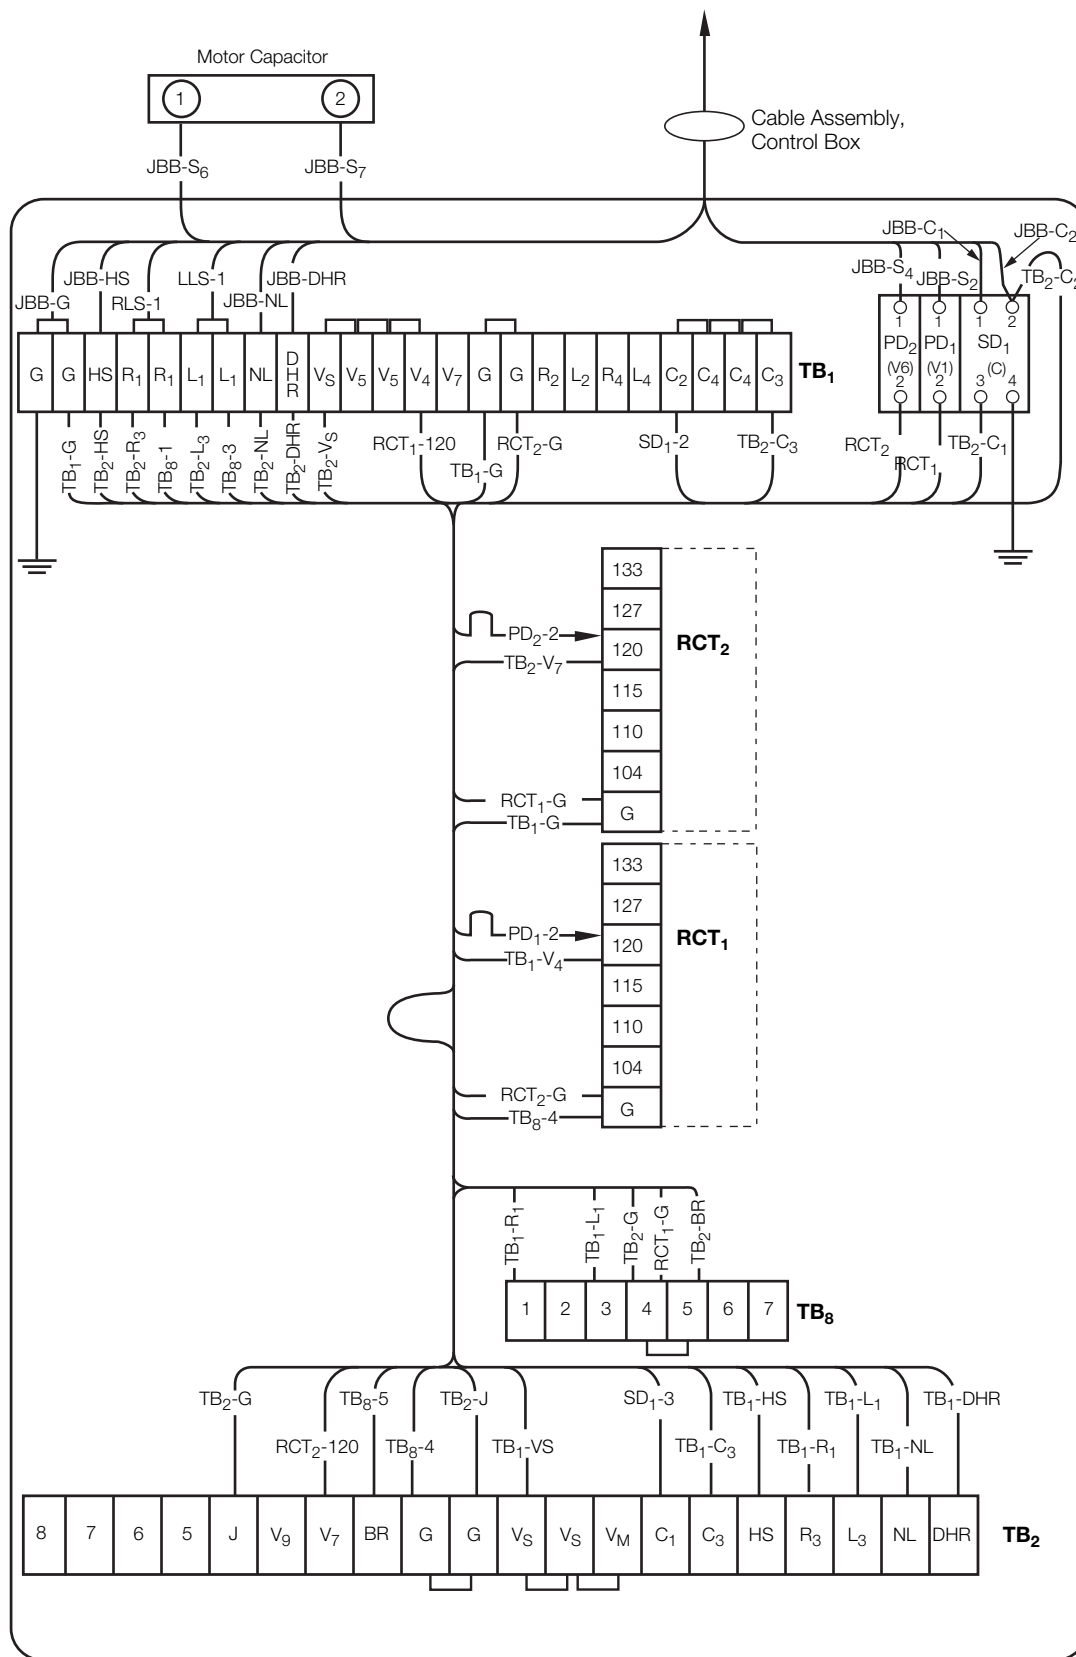

Figure 10.
6. Insert the control box cable in to the control cable and tighten the cable fastener. Refer to Figures 10, 11, and 12 for the three entrance options.